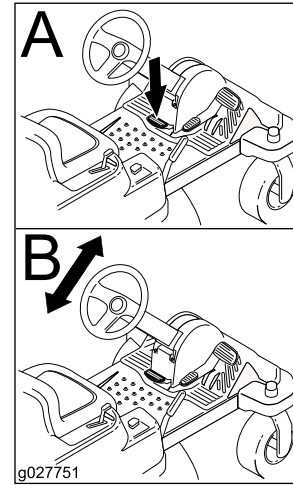

Figure 11
2. Position the steering wheel to the desired position (Figure 11).